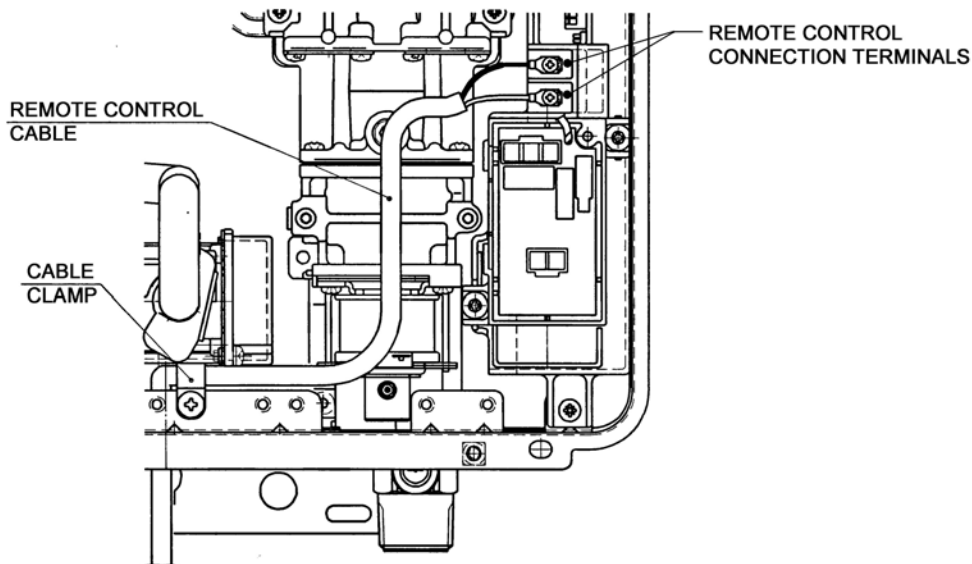

Fig. 8 Control Wiring Connections Inside Water Heater
9. Thread the cable through the access hole at the base of the water heater and connect the wires to the control terminals on the right hand side of the PCB. See control wiring illustration (fig. 8).